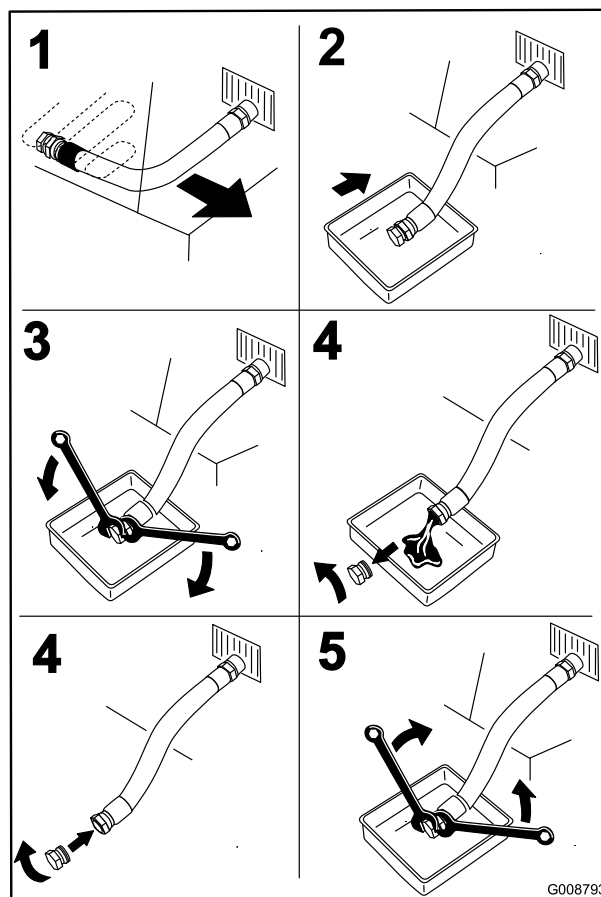

Figure 47
4. Stop the engine, remove the key, and wait for all moving parts to stop before leaving the operating position (Figure 47).